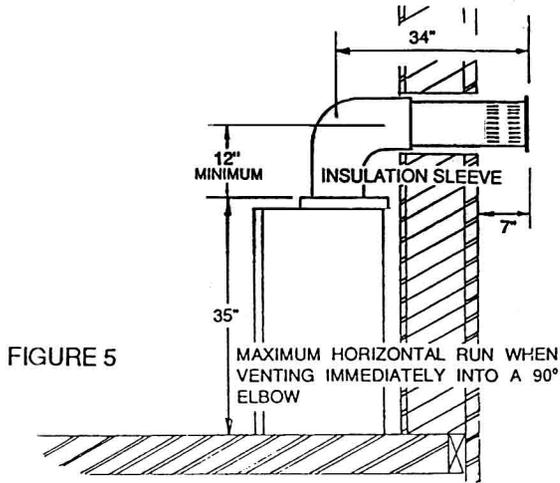

FIGURE 5
*** NOTE: THE FIRST 3-1/2 FEET OF OUTER 8 INCH DIAMETER VENT PIPE FROM THE APPLIANCE MUST BE WRAPPED IN THE 1 INCH THICK INSULATION SLEEVE (SUPPLIED) AS WELL AS HAVING A 1 INCH AIR GAP (Fig 5).**
These vent kits allow for either horizontal or vertical venting of the fireplace (Figures 5, 6, & 7). The maximum number of vent connections is two horizontally or three vertically (excluding the fireplace and the air terminal connections).
This application occurs when venting through an exterior wall (Fig. 5 & 6)